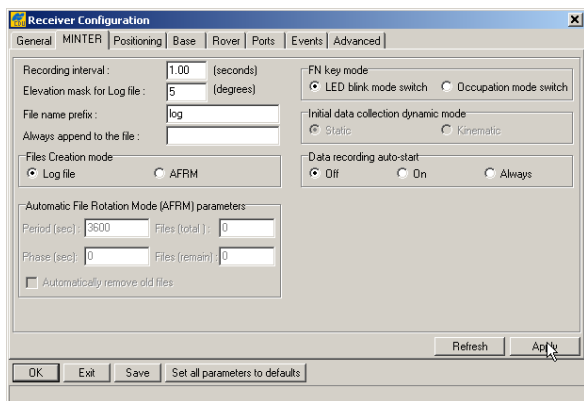

Figure 3-18. Receiver Configuration – MINTER Tab
5. Click **Configuration ► Receiver** then click the **MINTER** tab, set the following parameters and click **Apply** (Figure 3-18). See the following pages for descriptions of these parameters.